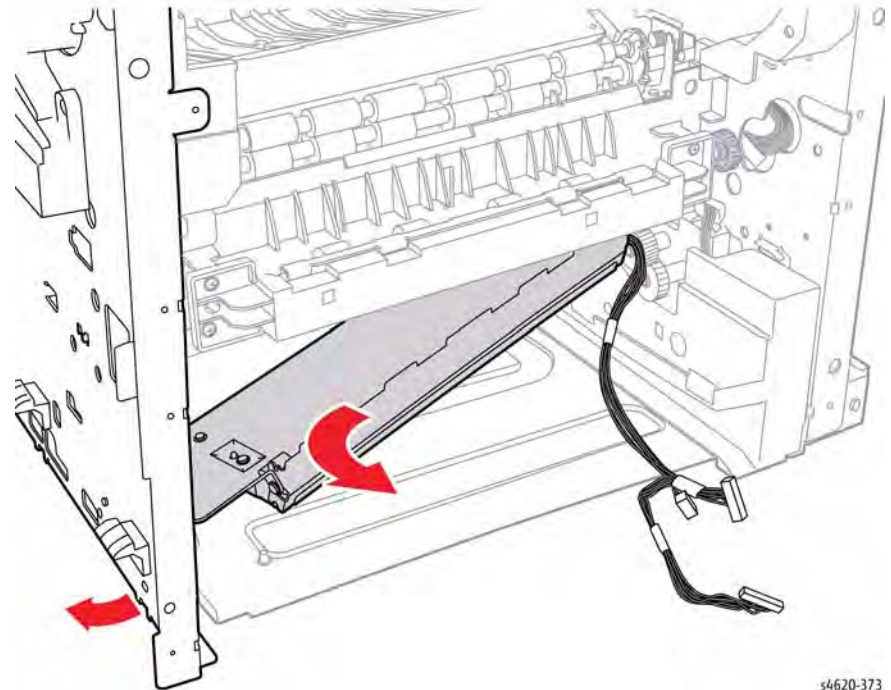

Figure 11 Remove the Tray 2 Feeder Assembly and baseplate
31. Hold the left side chassis and release the Tray 2 baseplate from the chassis to remove the Tray 2 Feeder Assembly from the chassis, Figure 11.